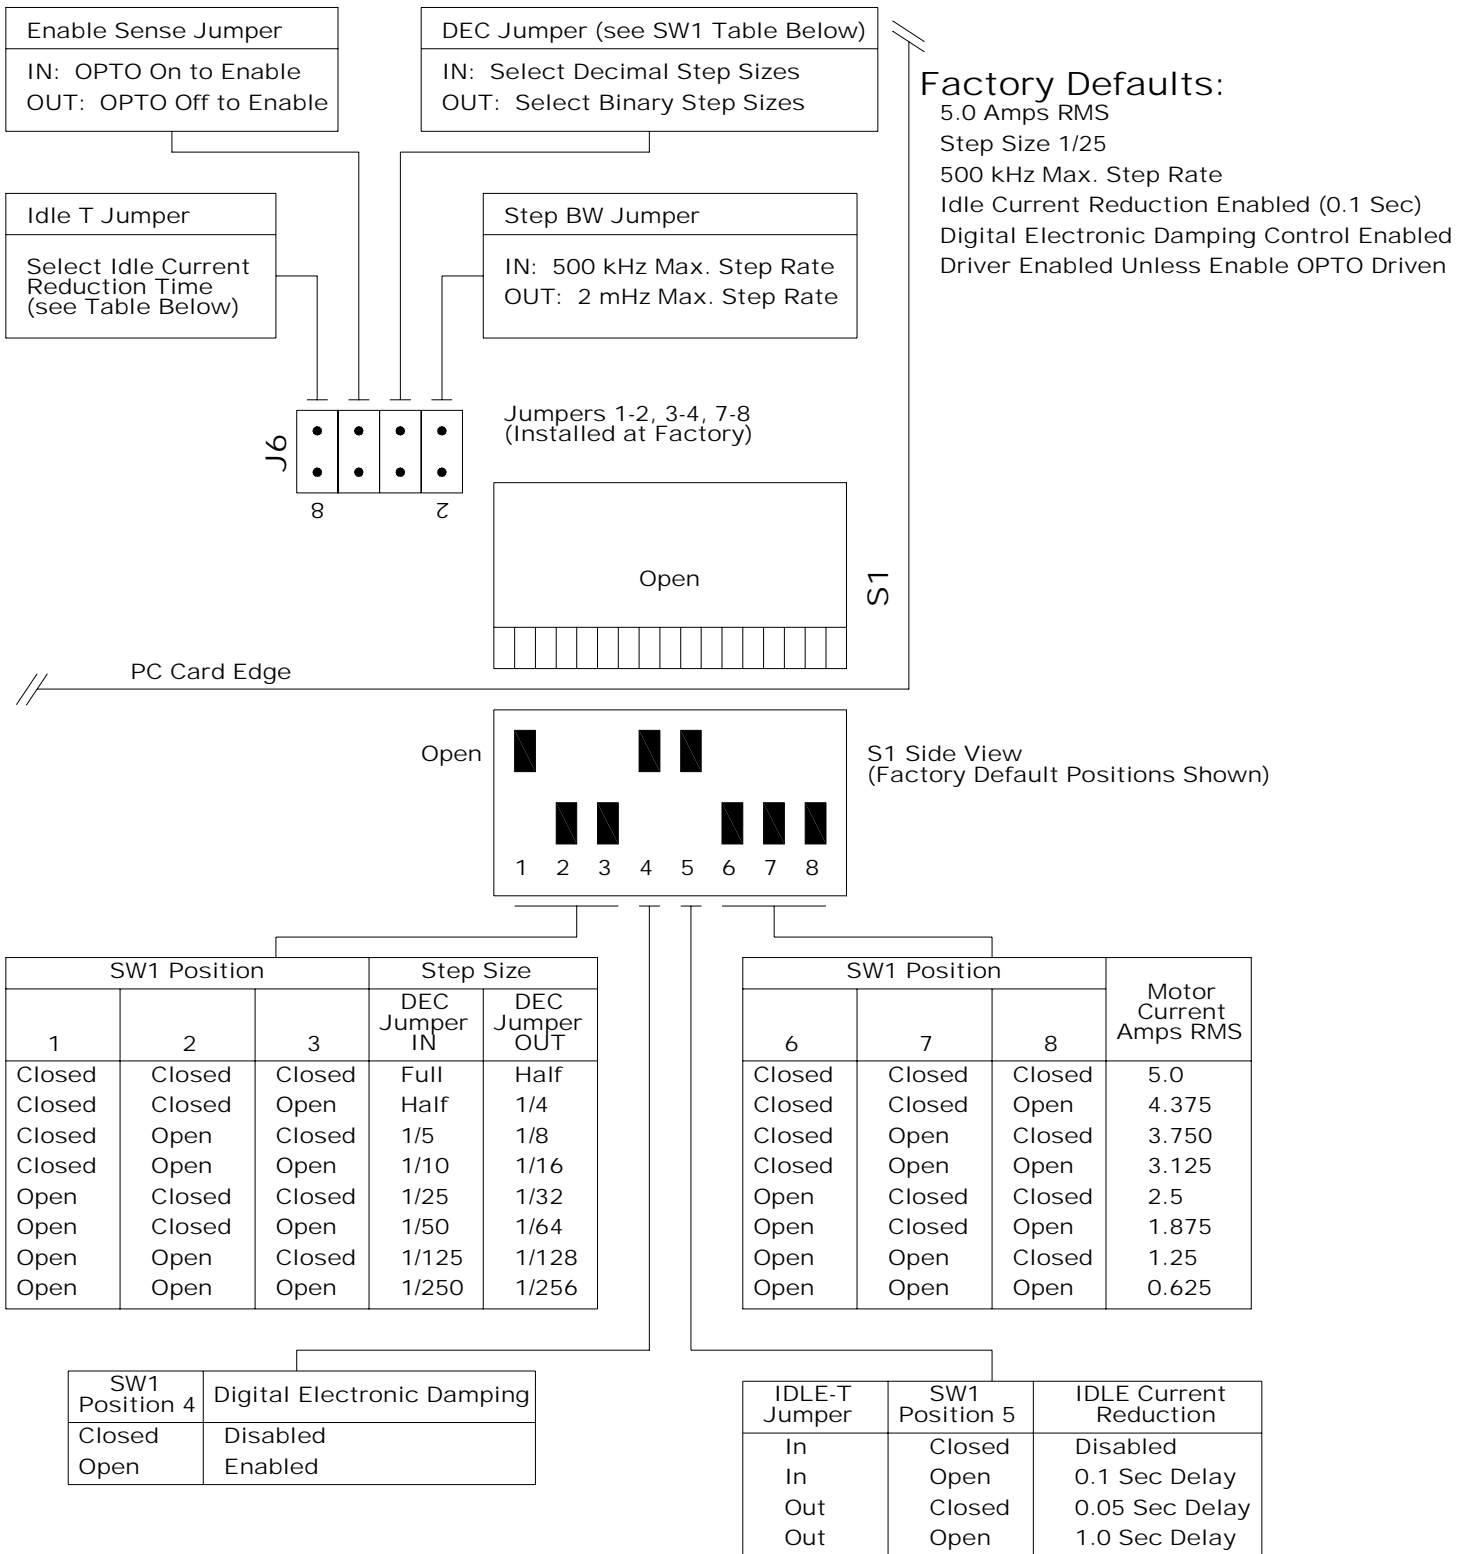

Figure 3: DIP Switch Settings (S1)
- Current: **Note:** Adjustable from 0.625 to 5A Rms in 0.625 Amp increments (Figure 3)
(Figure 3)
- **Idle Current Reduction** (Figure 3)
- Enabled or Disabled with DIP Switch (see Figure 3).